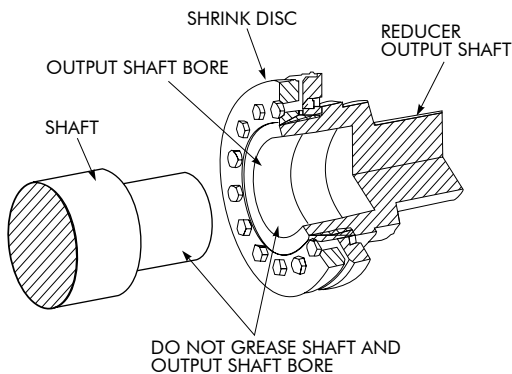

Figure 2.2b Placement of Shrink Disc onto Output Shaft
- c. Slide Shrink Disc over the output shaft. The outer surface of the output shaft can be greased. **NOTE:** The output shaft bore and the shaft that the reducer will be mounted to **SHOULD NOT** be greased. Reference Figure 2.2b. To facilitate installation of the shrink disc on output shaft, pry open the inner ring split with a flat screwdriver while installing.